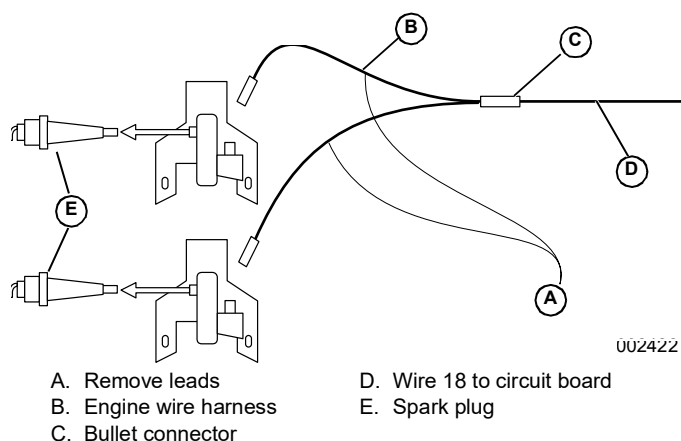

Figure 3-70. Engine Ground Harness
11. See Figure 3-70. Disconnect the engine wire harness from the ignition magnetos.